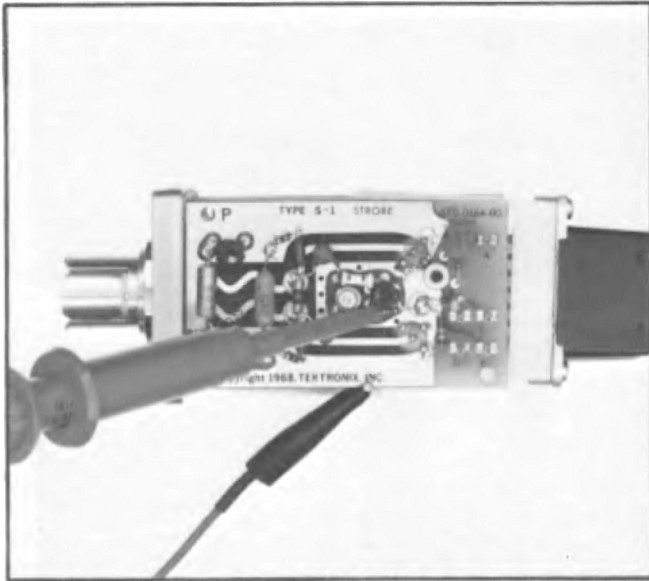
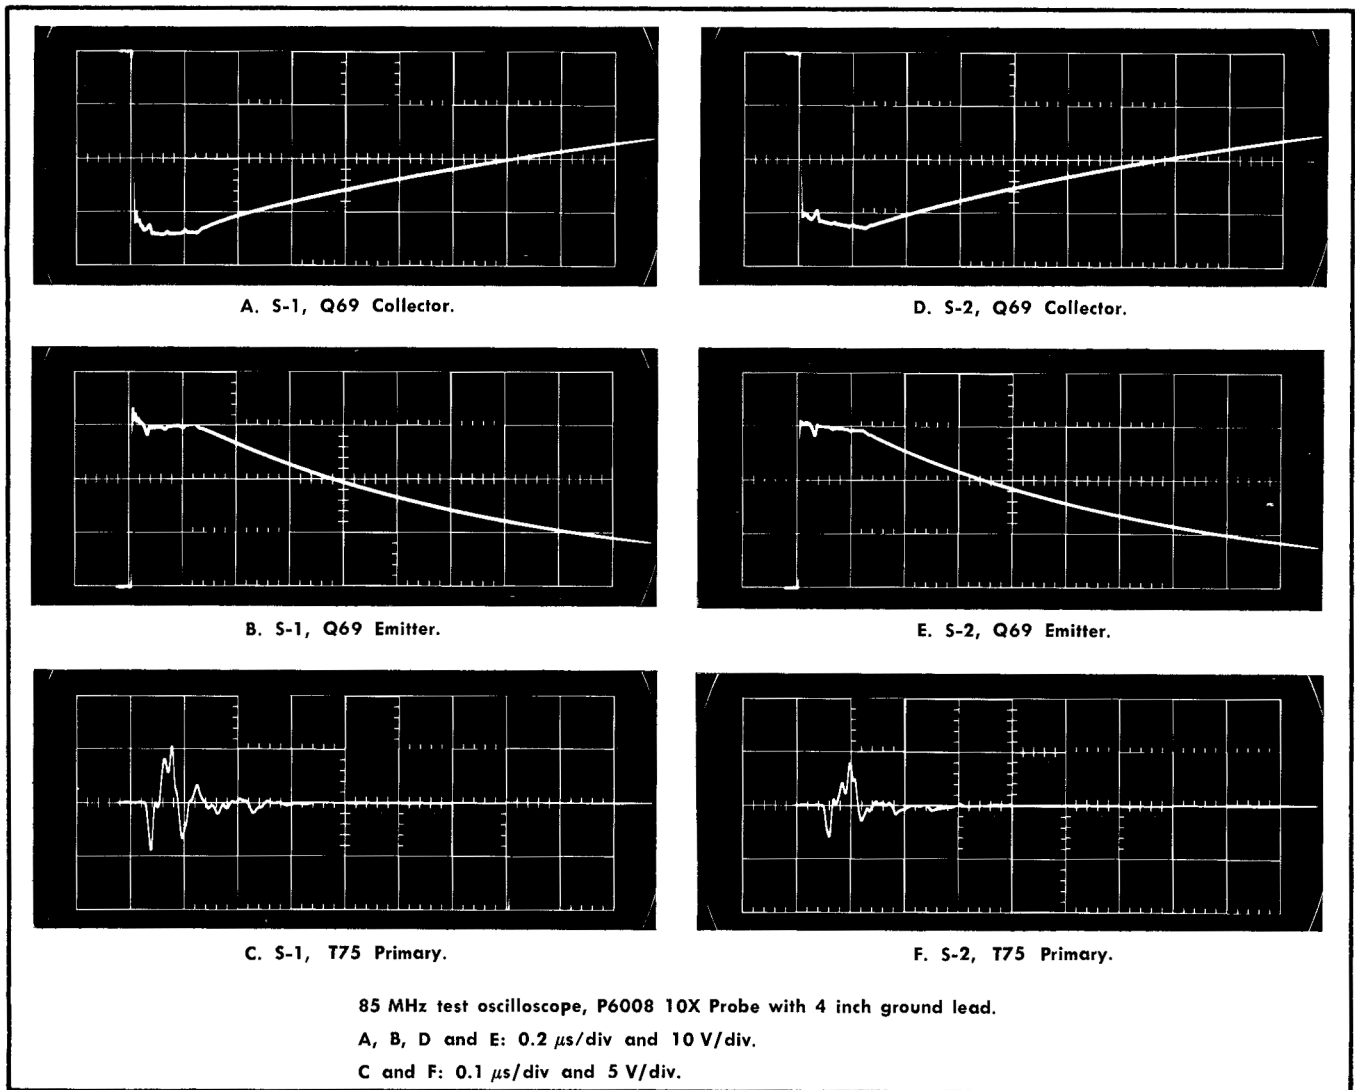

Fig. 5-2. Test oscilloscope 10× probe connected to Q69 emitter.
Fig. 5-3. Checking Avalanche drive and output.
d. Use the test oscilloscope with 10× Probe, to check for proper operation of Q69. The probe connections are shown in Fig. 5-2, and the general nature of the signals is shown in Fig. 5-3. Fig. 5-3A and B show the general amplitude for Q69 collector and emitter signals in a Type S-1 Sampling Head. Fig. 5-3D and E show Q69 signals in a Type S-2 Sampling Head. Fig. 5-3C and F show the S-1 and S-2 typical drive signals at T75 primary (square terminal E) while the head is on the extender cable.
played noise, so it is best to have several transistors of this type on hand and grade them for low noise using step 11). If all signals of Fig. 5-3 are present, check the Preamplifier output (square terminal D). If there is not signal at the Preamplifier output, check the sampling diodes and Q31 in the following manner.